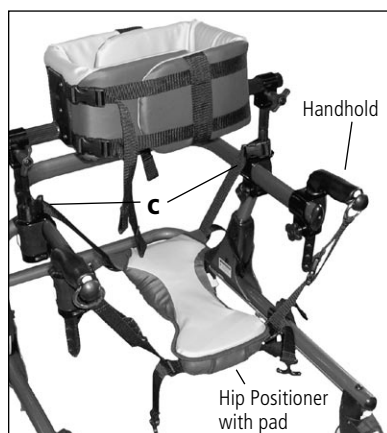

Figure 17
**The Hip Positioner** is designed to encourage forward leaning. Install this accessory with its two clamps and Handholds at the back of the top bar as shown in Figure 17. Refer to the warning on the right for important safety information.
- attach rings to handholds as in Figure 17.
See Figures 17 and 18
- Use strap adjusters (D).
**Users are usually more comfortable** when the rear of the Hip Positioner is substantially lower than the front, as shown in Figures 17 and 18.
- To achieve this, shorten front straps (E) and attach them as high as possible.
**3. Install the hip positioner** on your Pacer (see Figure 17)